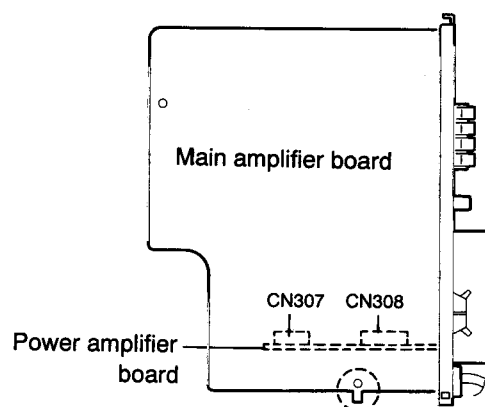

Fig. 5-16
6. Disconnect the main amplifier board connectors CN307 and CN308 from the power amplifier board. (See Fig. 5-16)